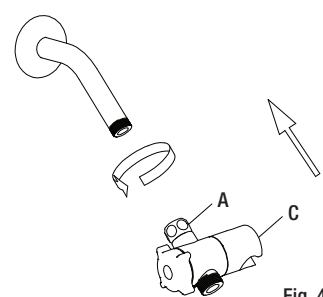

Fig. 4
2. Screw the end of the 3-way valve (C) tightly onto the current shower arm, see Fig. 4.